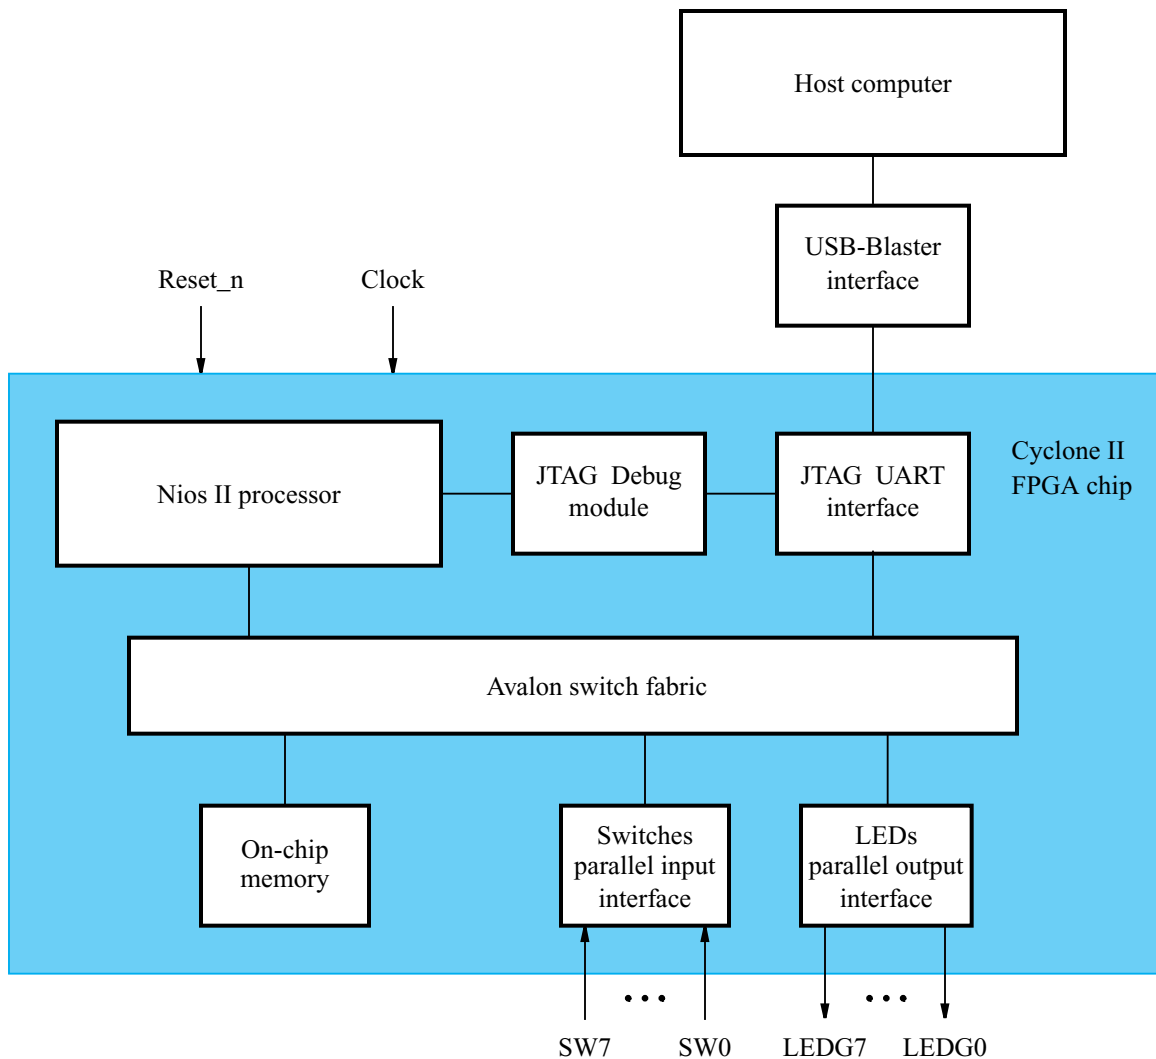
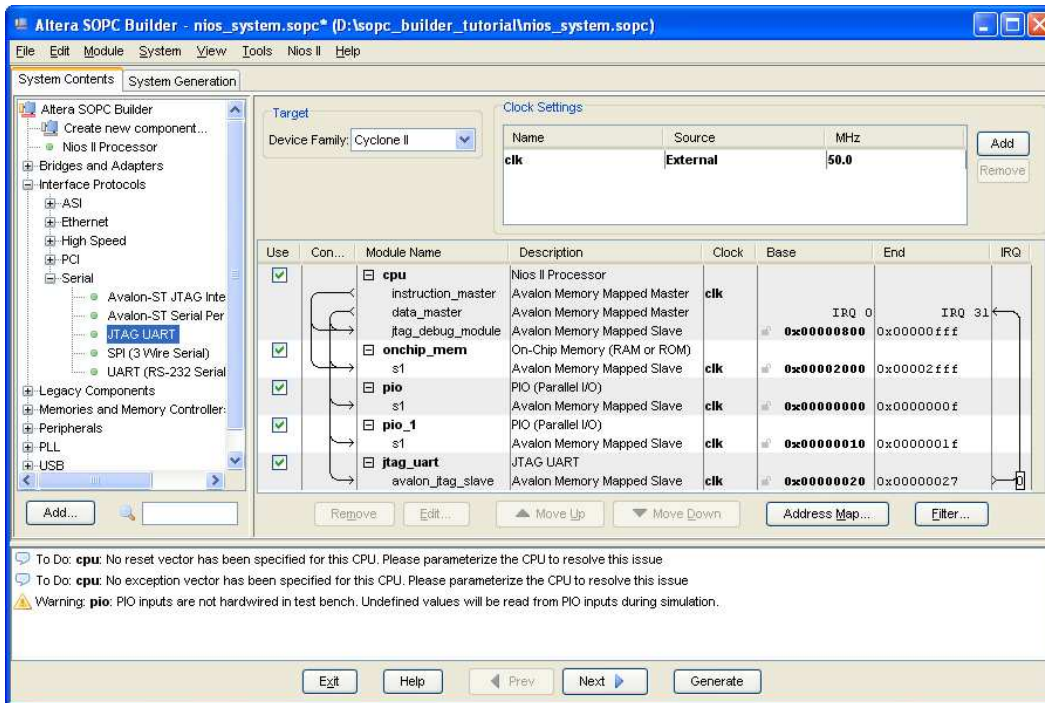

Figure 2. A simple example of a Nios II system.
Figure 13. The complete system.
Our example system is given in Figure 2. The system realizes a trivial task. Eight toggle switches on the DE2 board, $SW7 - 0$, are used to turn on or off the eight green LEDs, $LEDG7 - 0$. The switches are connected to the Nios II system by means of a parallel I/O interface configured to act as an input port. The LEDs are driven by the signals from another parallel I/O interface configured to act as an output port. To achieve the desired operation, the eight-bit pattern corresponding to the state of the switches has to be sent to the output port to activate the LEDs. This will be done by having the Nios II processor execute a program stored in the on-chip memory. Continuous operation is required, such that as the switches are toggled the lights change accordingly.
We will use the SOPC Builder to design the hardware depicted in Figure 2. Next, we will assign the Cyclone II pins to realize the connections between the parallel interfaces and the switches and LEDs which act as I/O devices. Then, we will configure the FPGA to implement the designed system. Finally, we will use the software tool called the *Nios II Monitor Program* to assemble, download and execute a Nios II program that performs the desired task.
The SOPC Builder is a tool used in conjunction with the Quartus II CAD software. It allows the user to easily create a system based on the Nios II processor, by simply selecting the desired functional units and specifying their parameters. To implement the system in Figure 2, we have to instantiate the following functional units:
10. The complete system is depicted in Figure 13. Note that the SOPC Builder automatically chooses names for the various components. The names are not necessarily descriptive enough to be easily associated with the target design, but they can be changed. In Figure 2, we use the names **Switches** and **LEDs** for the parallel input and output interfaces, respectively. These names can be used in the implemented system. Right-click on the **pio** name and then select **Rename**. Change the name to **Switches**. Similarly, change **pio_1** to **LEDs**.